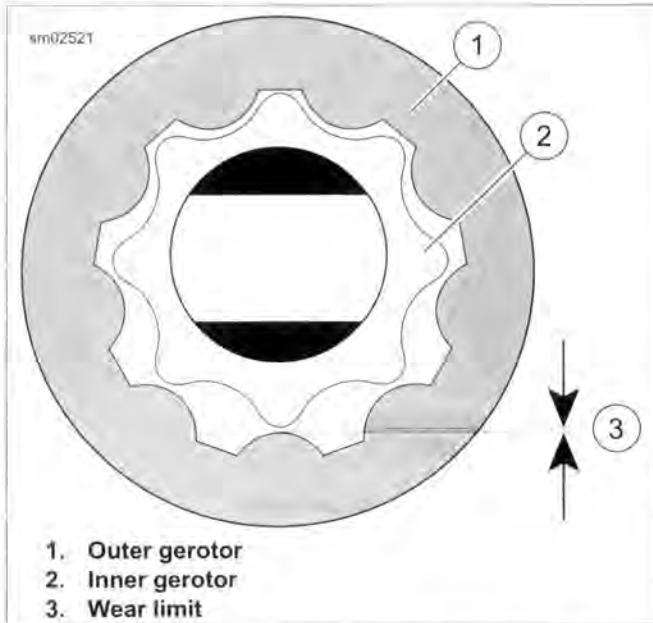

Figure 3-109. Measure Gerotor Sets for Wear
6. See Figure 3-109. Check gerotor wear.